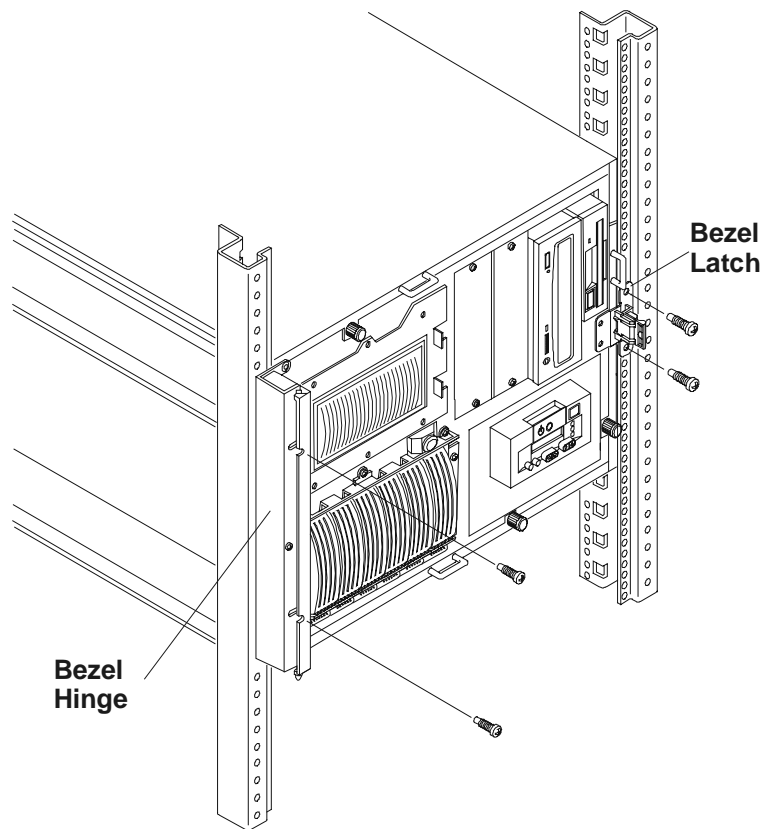

Figure 8-14. Securing the HP NetServer to the Rack
5. Install two screws through the bezel latch into the rack nuts on the right column (see Figure 8-14).